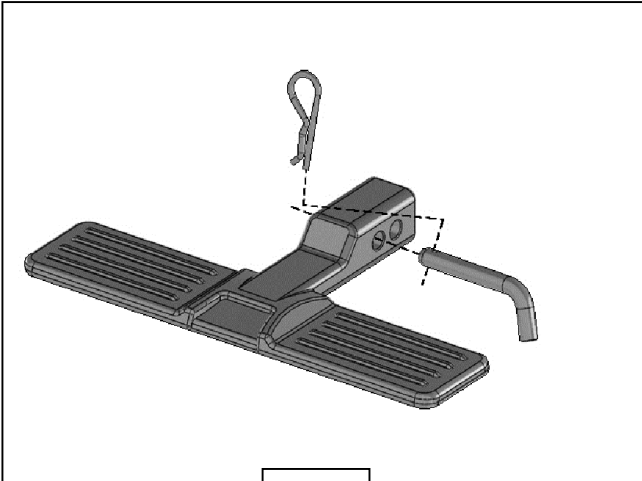

Fig 1
- Select the (1) Universal Hitch Step and insert into the receiver tube. Lock in place with (1) Hitch Pin and (1) Hitch Safety Clip, **(Figure 1)**.